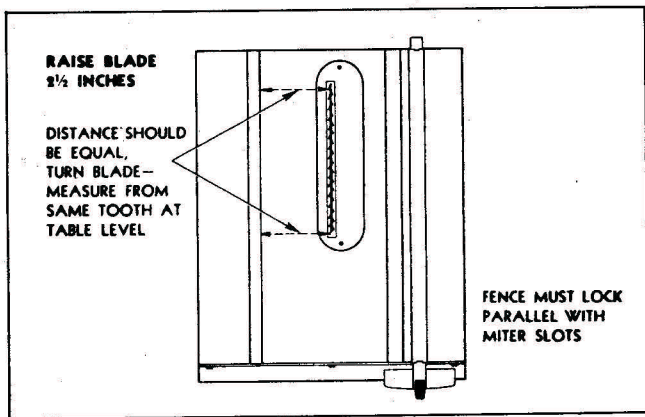

FIGURE 4
Install in opening provided in table top. See Fig. 4.
The Blade Must Be Parallel with the Miter Slots in the Table to Get a Straight Cut. (See Fig. 4).
2. Measure accurately from a raker tooth on the blade to an edge of either miter slot, as explained and shown in Fig. 4.